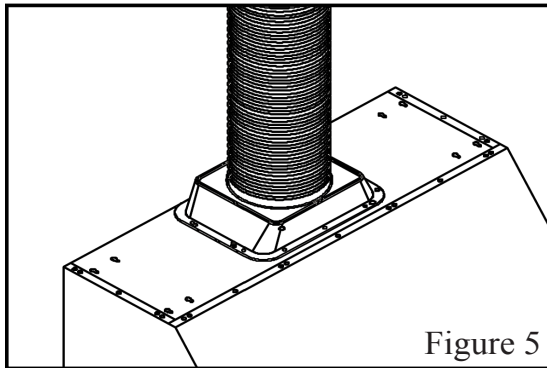

Figure 5
6. Use 8" round steel pipe (follow building codes in your area) to connect the exhaust on the hood to the ductwork above. Use silver tape or duct tape to make all joints secure and air tight. Refer to Figure 5.